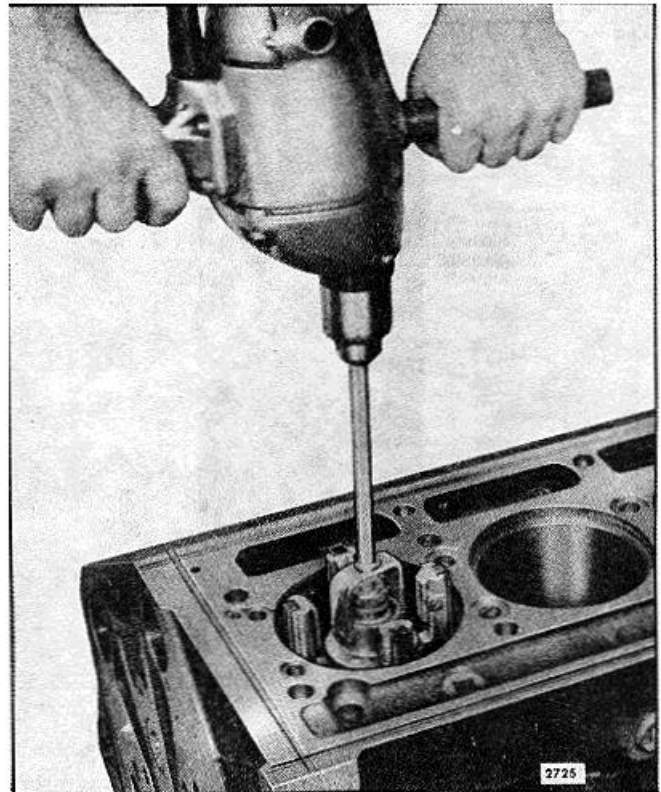

FIG. 6 Honing Cylinder Block Bore
- b. Insert the hone in the bore and adjust the stones snugly to the narrowest section (Fig. 6). When correctly adjusted, the hone will not shake in the bore, but will drag freely up and down the bore when the hone is not running.